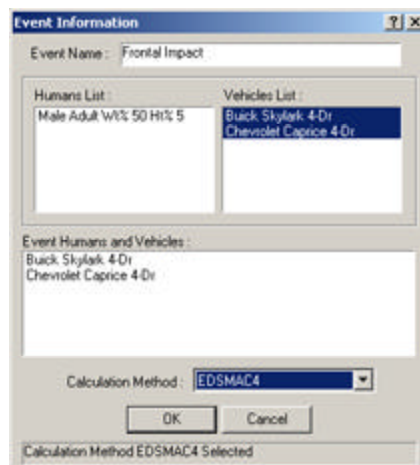

Figure 5-19: Setting up EDSMAC4 event
- Click on the (+) sign on the tool bar to add an event. The Event Information dialog is displayed. See Figure 5-19.
- Enter a name for the event, *Frontal Impact*. The Event Information dialog should look similar to Figure 5-19.